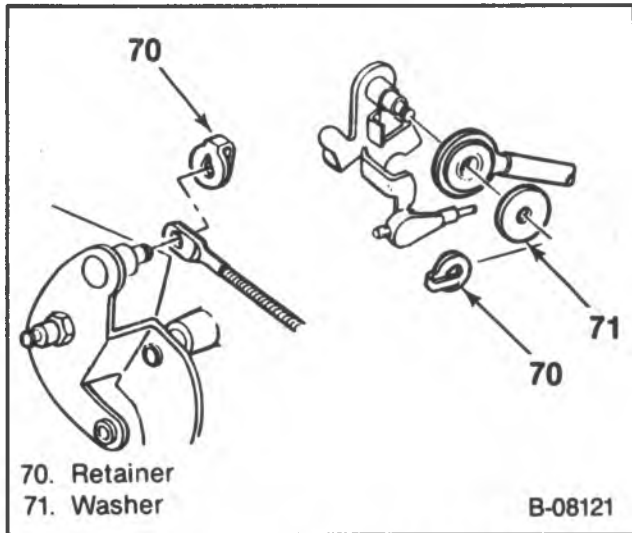

Figure 21 — Accelerator Control Cable Attachment
- The retainer must be installed with the tangs secured over the head of the stud (figure 21).